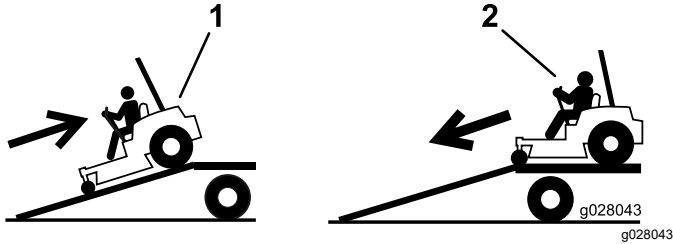

Figure 46
4. Back the machine up the ramp (Figure 46).
2. Drive the machine forward down the ramp (Figure 46).